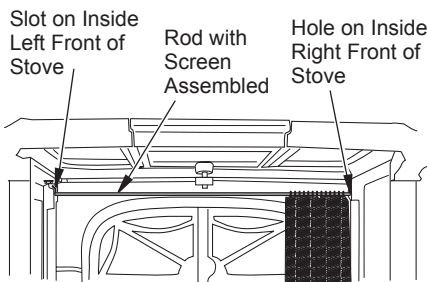

Figure 15 - Installing Screen Into Stove (View From Back of Stove)
2. From back of stove, insert rod into hole located inside right front of stove as shown in Figure 15, page 13.
3. Slip left side of rod down into slot on inside left front of stove (see Figure 15, page 13).